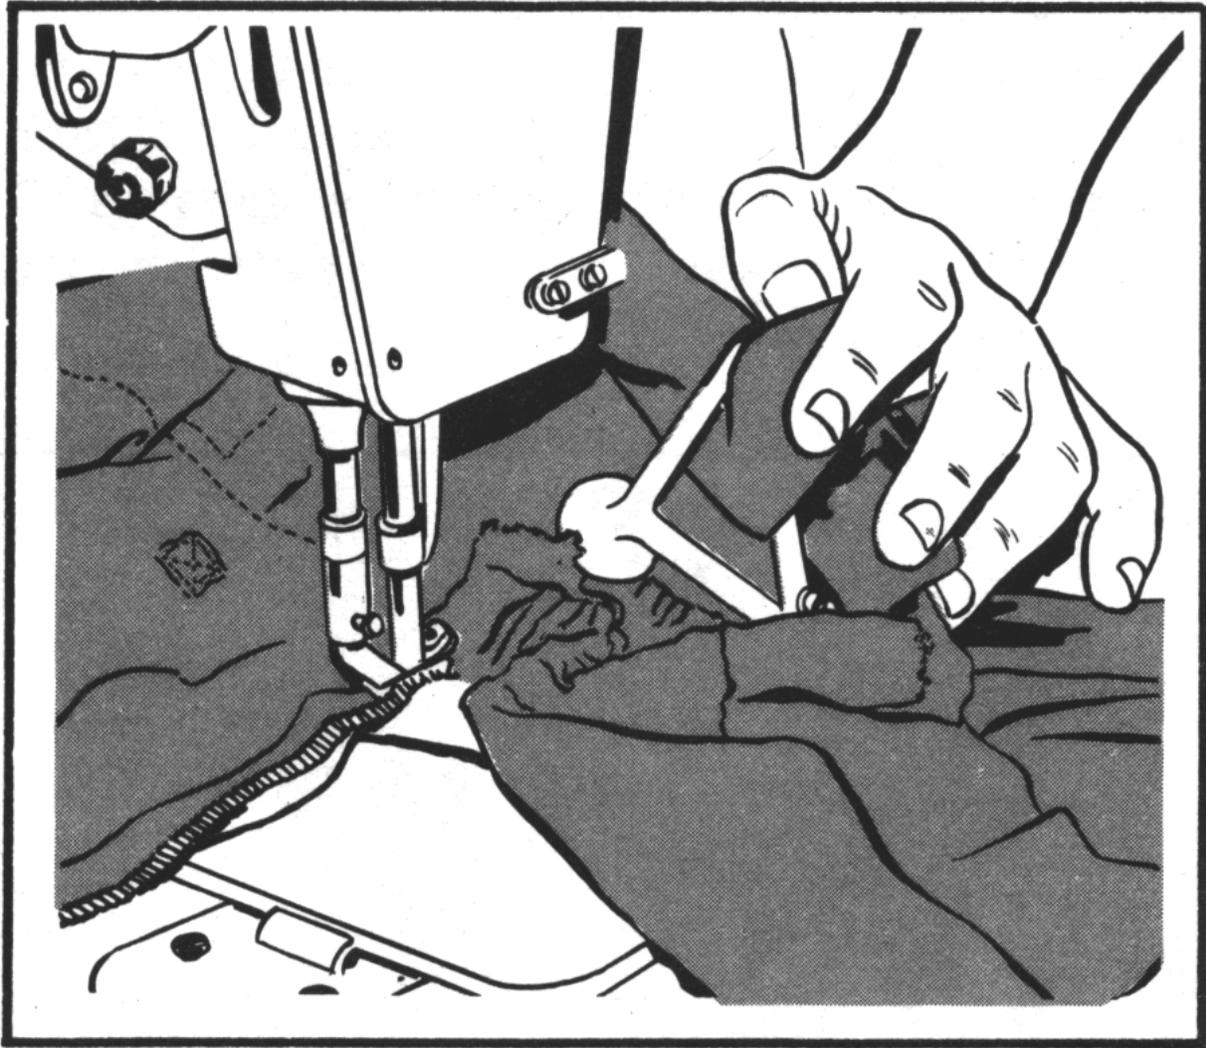

Figure 9-21. Sewing new zipper in place
j. Sew a seam 3/16 inch from the folded edge of the zipper (Figure 9-21). Sew to the eave of the tent, and tack the seam with a 1-inch tack.